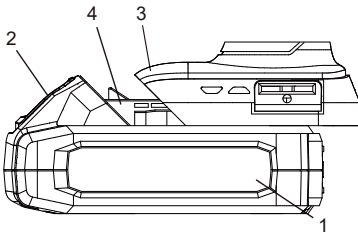

Fig. 3
1. Remove the discharged battery (1) from the drill by pressing downward on the battery release button (2) and sliding the battery backward until it is removed from the drill handle (3) (Fig. 3).
2. Slide the fully charged battery onto the matching keys (4) in the drill handle where the discharged battery has been removed.